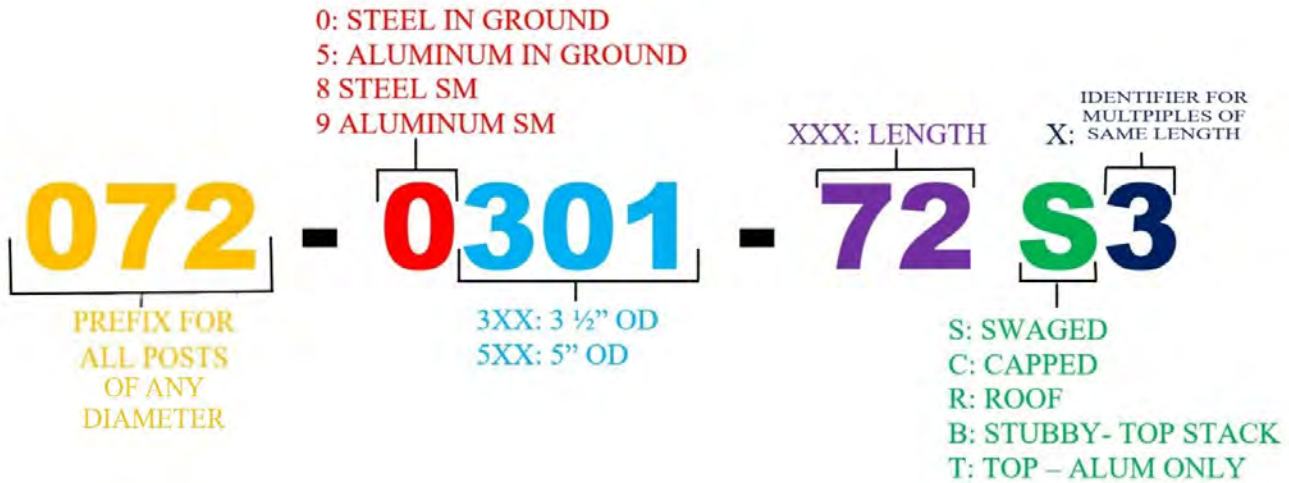

Figure 1
2. The letter and number designation for the upright posts can also be found on the packaging of each post. See Figure 1 for reference below.